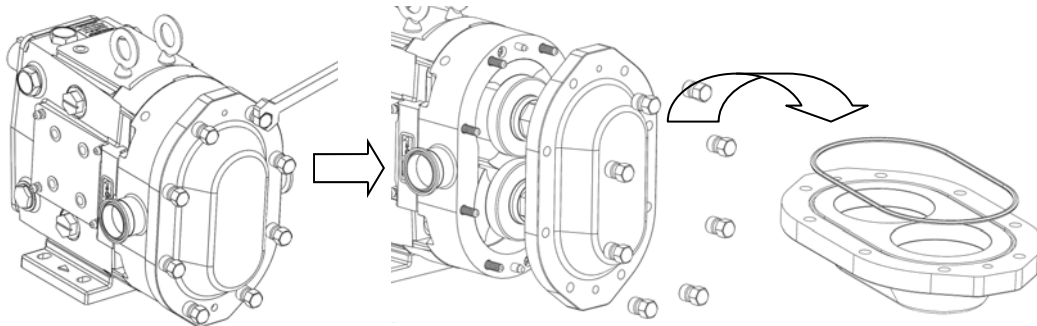

Figure 23: Removing QP2 Cover
1) Start by removing the cover nuts using an appropriate wrench (Figure 23). During disassembly place all parts on a clean, protected surface with finished surfaces and seal faces facing up. Tap the cover off using a soft mallet. Remove the cover o-ring and inspect.